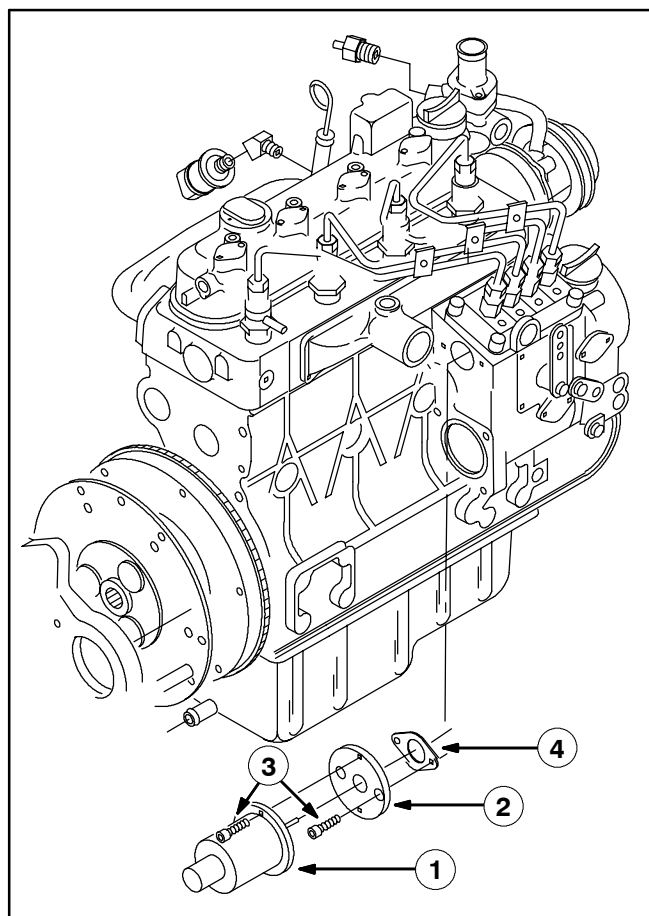

FIG. 1 Diesel Governor Installation
3. Use four socket head screws (3) to install the new actuator governor adapter (2), throttle solenoid gasket (4), and diesel governor actuator (1) onto the engine. Tighten screws to 8-12 ft lbs of torque. Refer to Fig. 1.